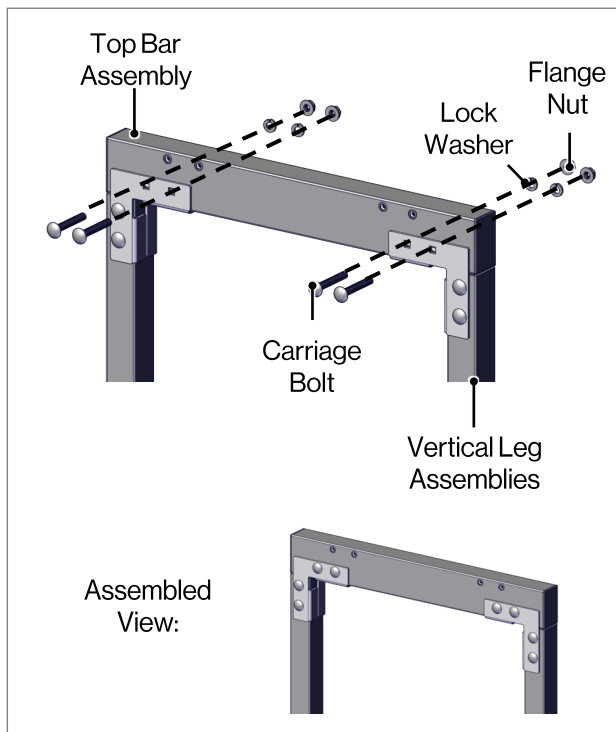

Fig. 7
- Attach the Top Bar Assembly (item # 1) or extended length Top Bar Assembly (item # 12) to the Vertical Leg Assemblies with four (4) Carriage Bolts, four (4) Flange Nuts, and four (4) lock washers (Fig 7).